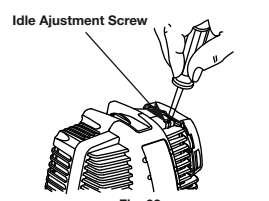

Fig. 32
The idle speed of the engine is adjustable. An idle adjustment screw is reached through a hole in the top of the engine cover (Fig. 32).
2. Release the throttle trigger and let the engine idle. If the engine stops, insert a small Phillips or flat blade screwdriver into the hole in the air filter/muffler cover (Fig. 32). Turn the idle speed screw in, **clockwise**, 1/8 of a turn at a time (as needed) until the engine idles smoothly.